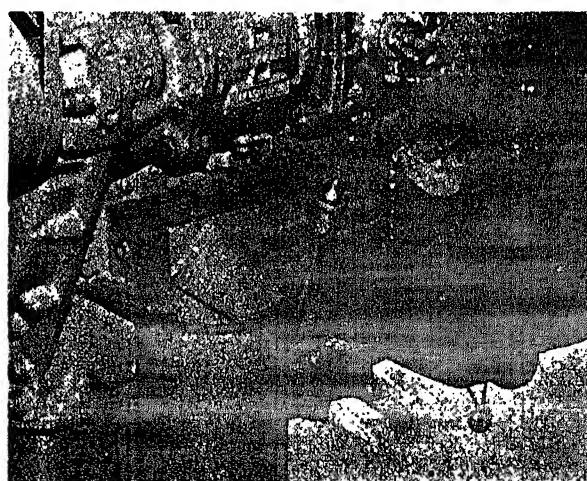

Fig. 2-1. Lubricating oil priming points
2. Remove $\frac{1}{4}$ in. pipe plug from the oil gallery (1, Fig. 2-1) on engines from top (2) of lubricating oil filter head for paper-element filters.